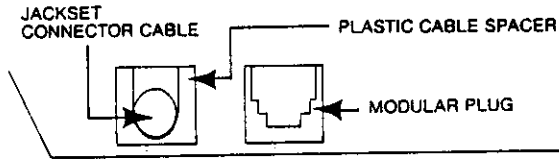

FIGURE 7 — REARVIEW EKT EXIT PORTS — JACKSET CABLE
3.3 Loosen the metal retaining bracket for the modular jack and insert the plastic cable spacer, removed in paragraph 2.5, underneath the jackset connector cable in the exit port. **See Figure 7.**